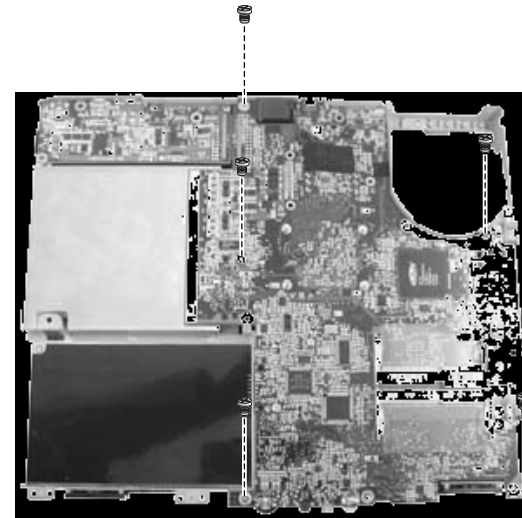

Figure 2-24 Remove the base unit cover
7. Remove five screws from the system board, and lift up the base unit to access the system board. (Figure 2-24)